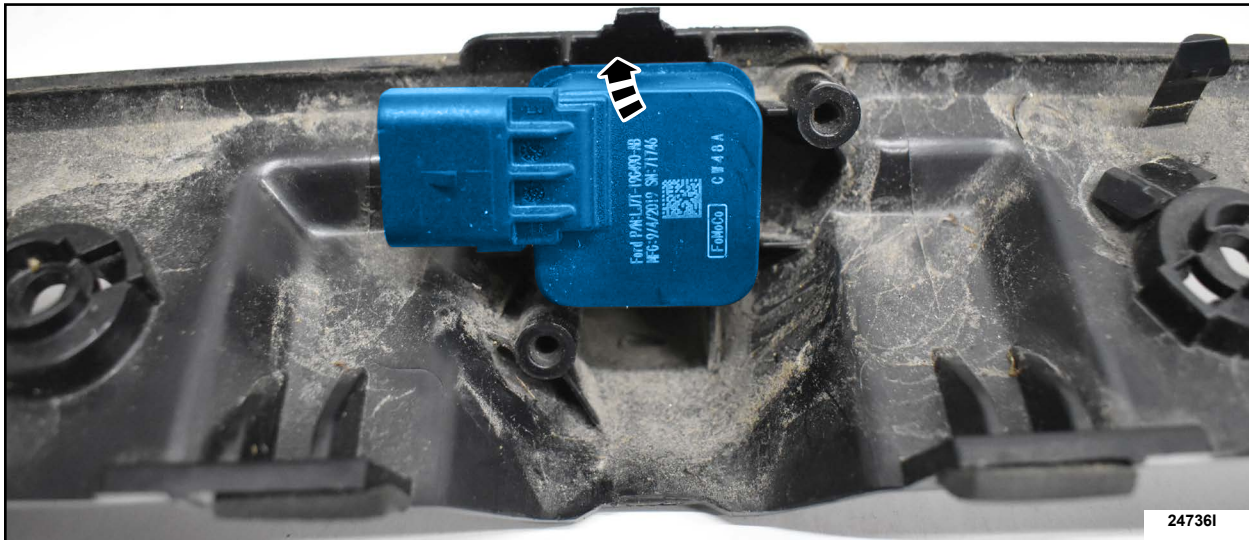

FIGURE 9
10. Remove the rear parking aid camera. See Figure 9.